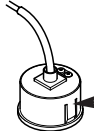

Fig. 73
3. Remove the bracket and gauge assembly. Depress the barbs on the side of the gauge and remove the retaining bracket (Fig. 73).